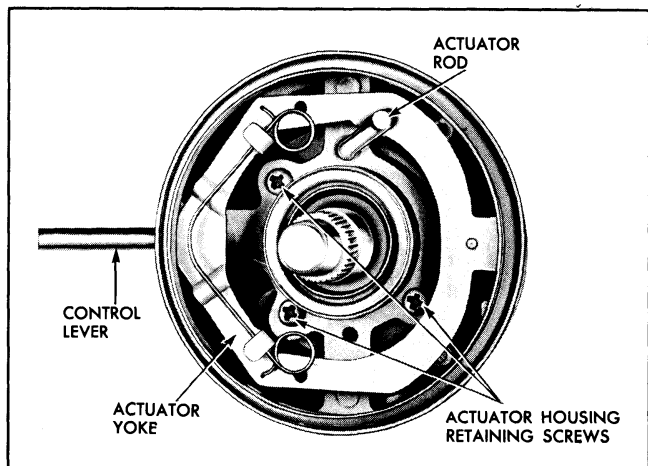

Fig. 9-16 Location of Actuator Yoke
10. Remove three screws which retain actuator housing and remove housing (Fig. 9-16).